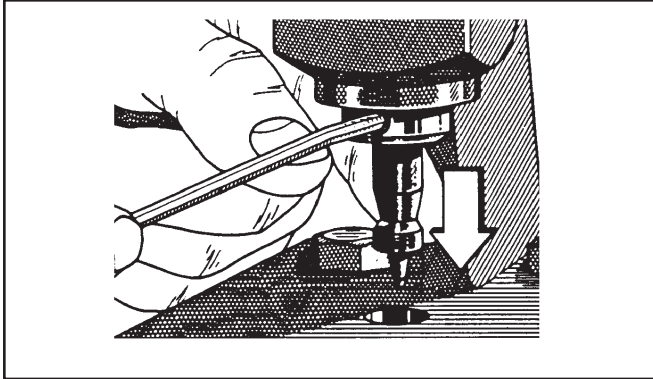

Figure 14. Removing the Punch
1. Remove the punch by loosening the set screw (Figure 14).